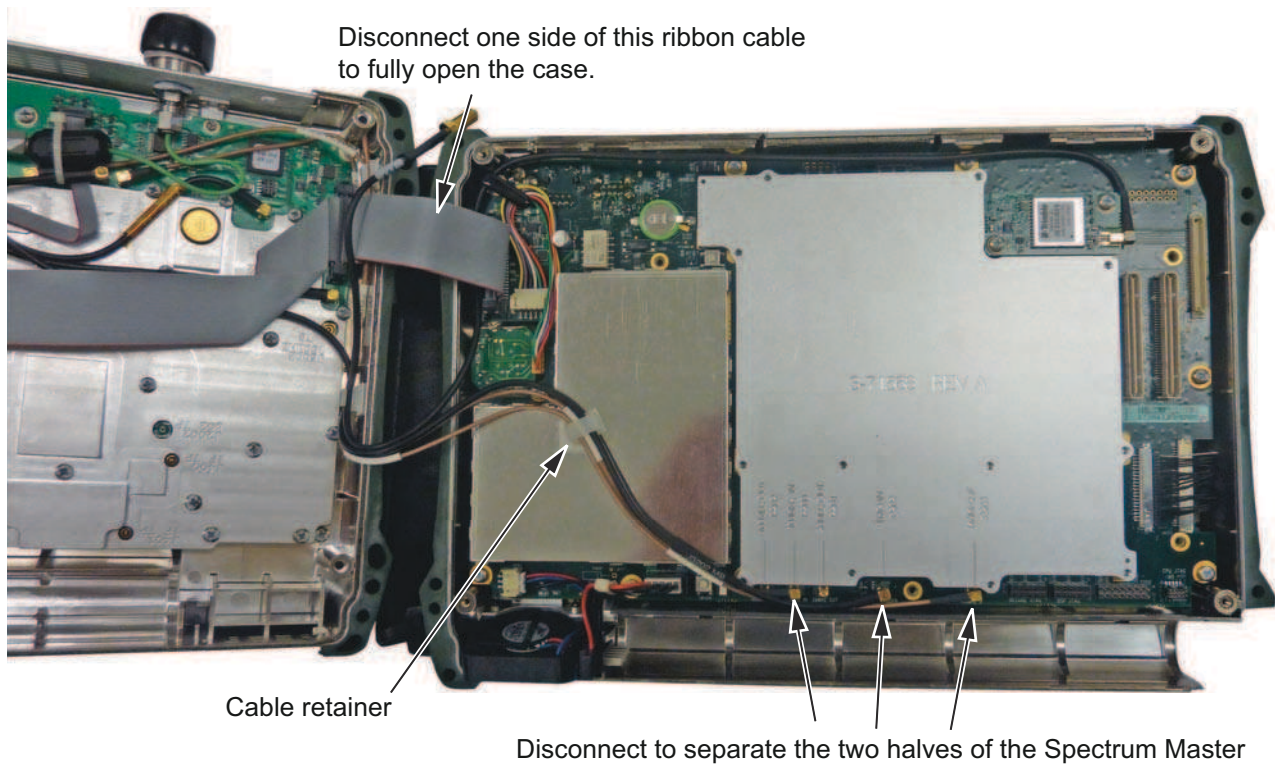
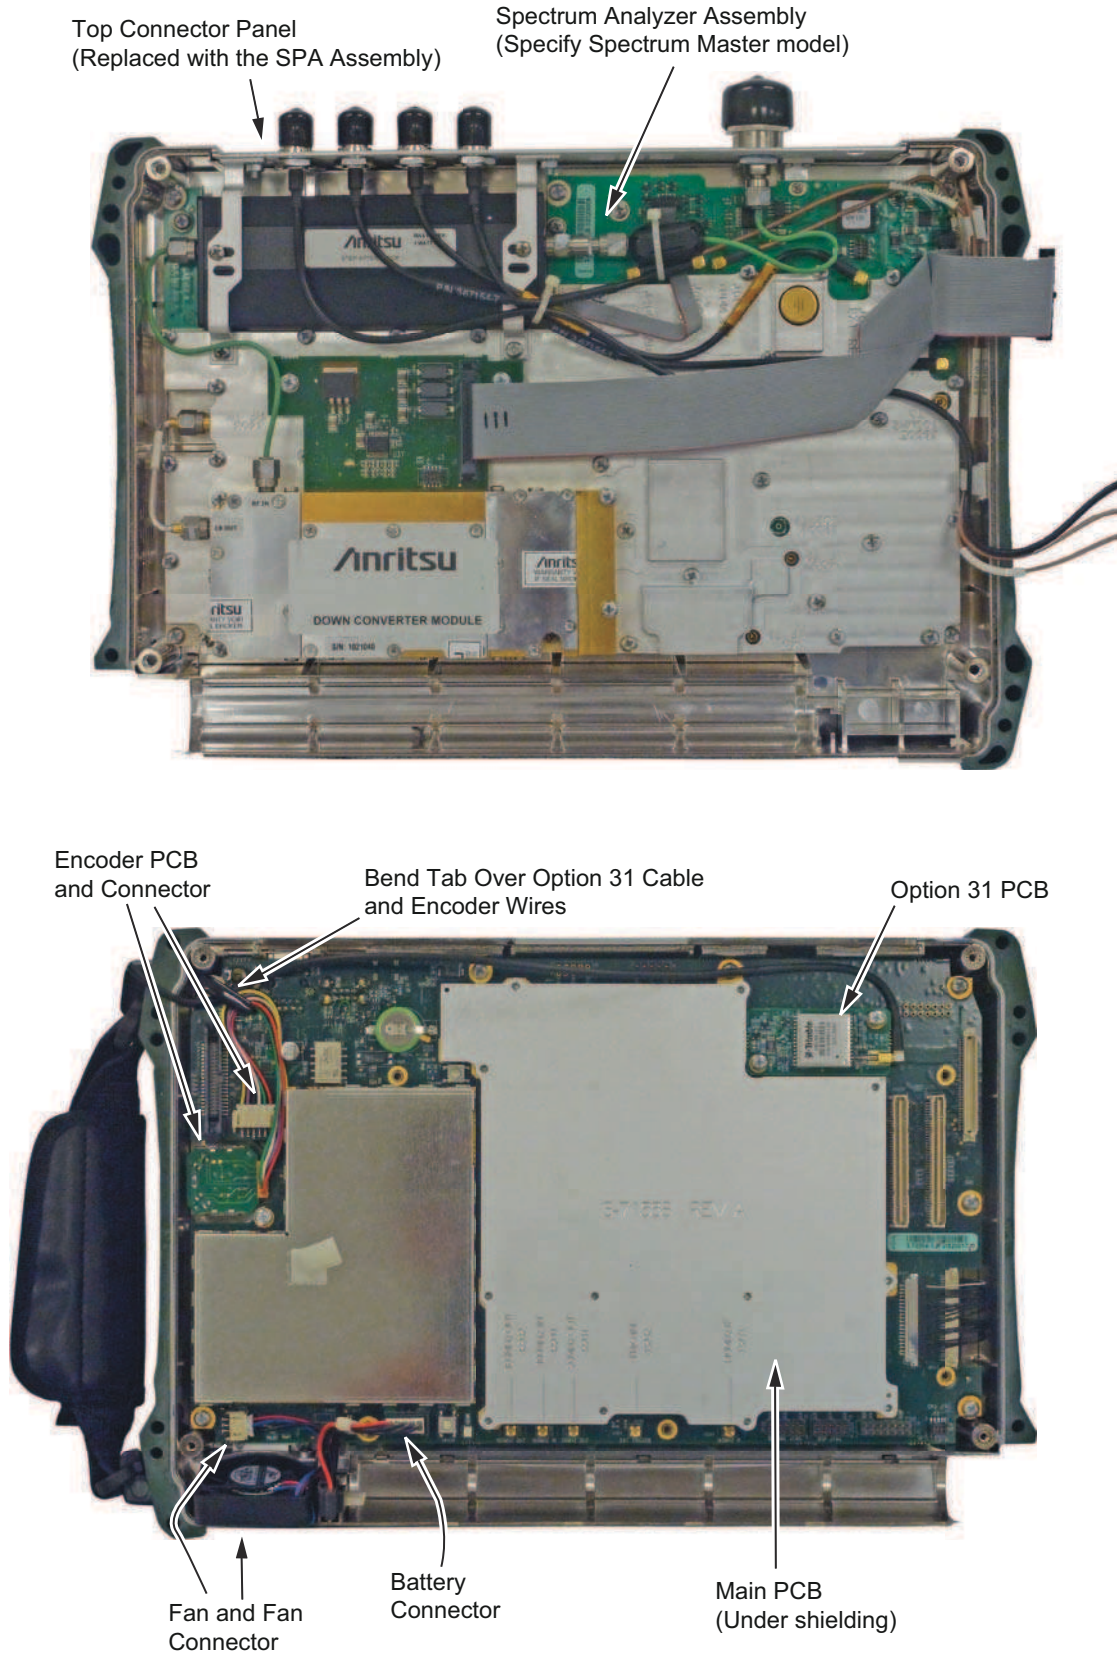

Figure 5-3. Disconnect the Cables Between the Two Halves of the Spectrum Master
Figure 5-4. SPA Analyzer PCB Assembly (Top) and Main PCB Assembly (Bottom)
Do not force or pull the two halves of the case apart completely, there are delicate cables attached between the two halves that must be disconnected first. Refer to Figure 5-3 and Figure 5-4.
- The two halves of the instrument can now be safely separated (Figure 5-4). Refer to the following sections of this chapter to remove and replace specific components of the instrument.